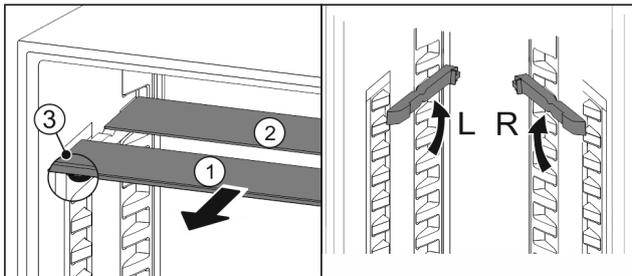

Fig. 97
- ▶ Pull the glass panels out Fig. 97 (1) from the front, one at a time.
- ▷ The glass panel Fig. 97 (1) with the trim strip is at the front.
- ▷ The stops Fig. 97 (3) point downward.